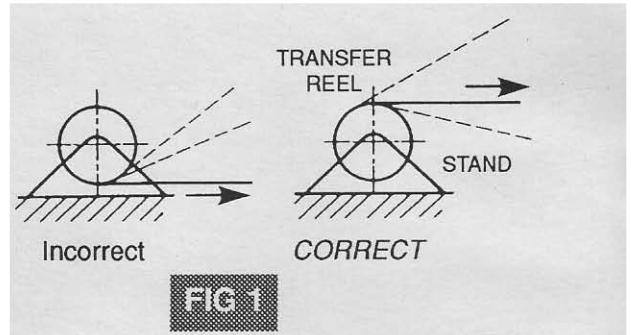
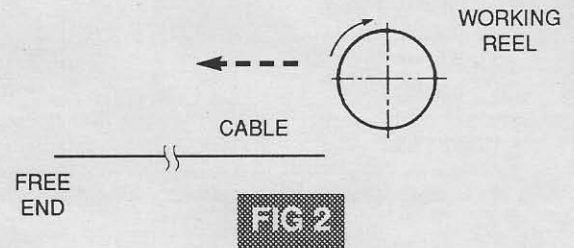

FIG 1
FIG 2
The full layout method keeps cable twisting to a minimum. See Figure 2.
1) Jack up the transfer reel and unwind ALL of the cable onto the cable run, paying off of the top (fig. 1). The idea is to lay the cable out in a straight line, leaving both ends free.
Cable anchoring is commonly located below the cable run as indicated in figure 1. The system may be above ground or placed in a pit, depending upon the location of the cable run. At least 2 cable turns should be wound around the fixed stress relief drum to ensure sufficient contact area for adequate stress relief. This is the most difficult type of anchoring operation because of dynamic load peaks that occur as the machine passes over the anchoring point and the reel is stopped by the cable while it changes its direction of rotation from retrieve to payout.
absorbs dynamic stresses and permits easy removal and replacement of the cable. This type of anchor can be installed above ground level as shown in figure 2, or below ground level to provide additional protection against accidental damage.
THE REELING CYCLE - "T" In **Figure 1**, the motor must allow the machine to literally pull cable off of the reel (unwind) as it moves from CL; the motor is overhauled, i.e. pulled *backward*, and acts as a "drag brake" *only*, to maintain tautness. In **Figure 2**, when the machine moves toward CL, the reel must rewind the cable back onto the spool; this is the DRIVE function for the motor - it is turning *in the same direction* as the spool.
The electric motor driving the reel is simple when the motor is non-reversing and energized whenever the machine moves — this simulates the simplicity of a spring. Problems develop when 1) the *machine* speed varies (unused motor current converts to heat)*; 2) the machine stops (ALL motor current converts to heat); or 3) cable is unwinding (FIG. 1) and the motor is overhauled, i.e., pulled *backward* (ALL motor current converts to heat). **HEAT IS THE PROBLEM** and it must be dealt with effectively or it will destroy the motor.